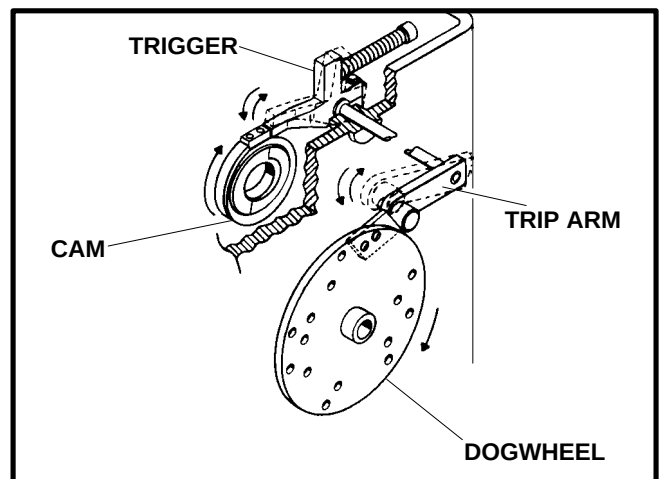

Figure 18
(B) The dog wheel, which is chain driven by the metering wheel, trips the trigger which has locked the cam into the braking position. See Figure 18.